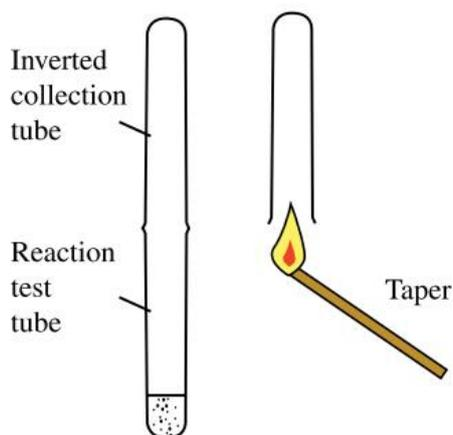

Figure 32.1
- If a gas is evolved, collect it by inverting another test tube over the mouth of the reaction tube. Keep the collection tube inverted and hold a lighted taper near the open end as shown in figure 32.1.